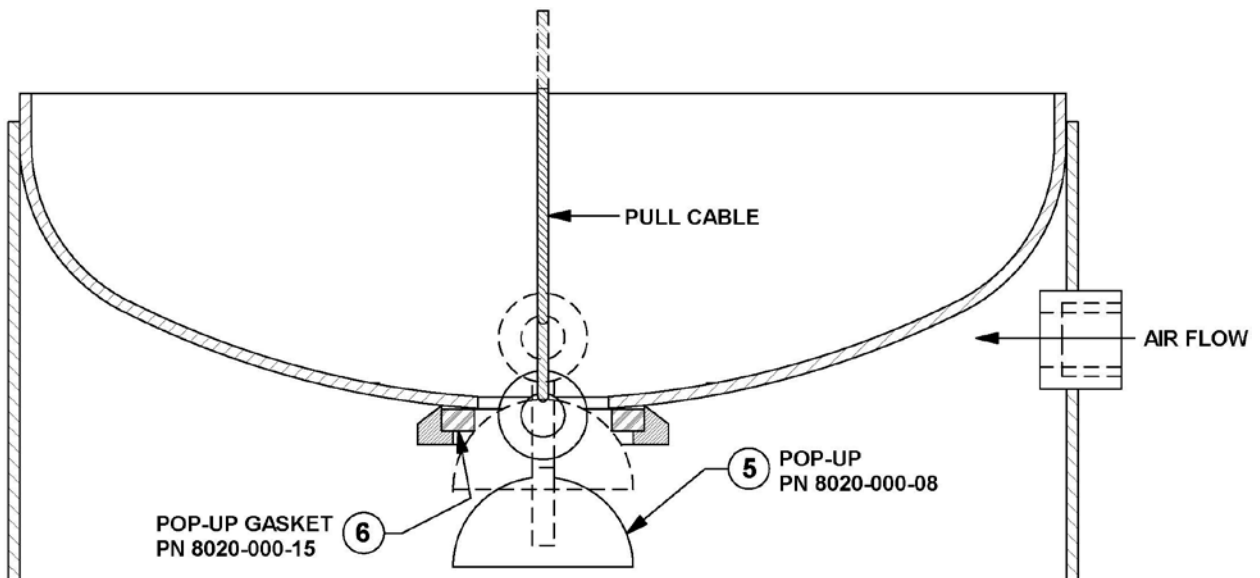

Figure 7.1 – Mini Blaster Manual Popup Assembly
- 7.1.2. Remove the screen (#29) to check that the popup (#5) has dropped open. The open popup indicates that the blast vessel is depressurized. See Figure 7.1.
- 7.2.6. Pull the popup head (#5) up against the gasket (#6) and securely hold the popup in position by maintaining a tight pull on the cable. See Figure 7.1